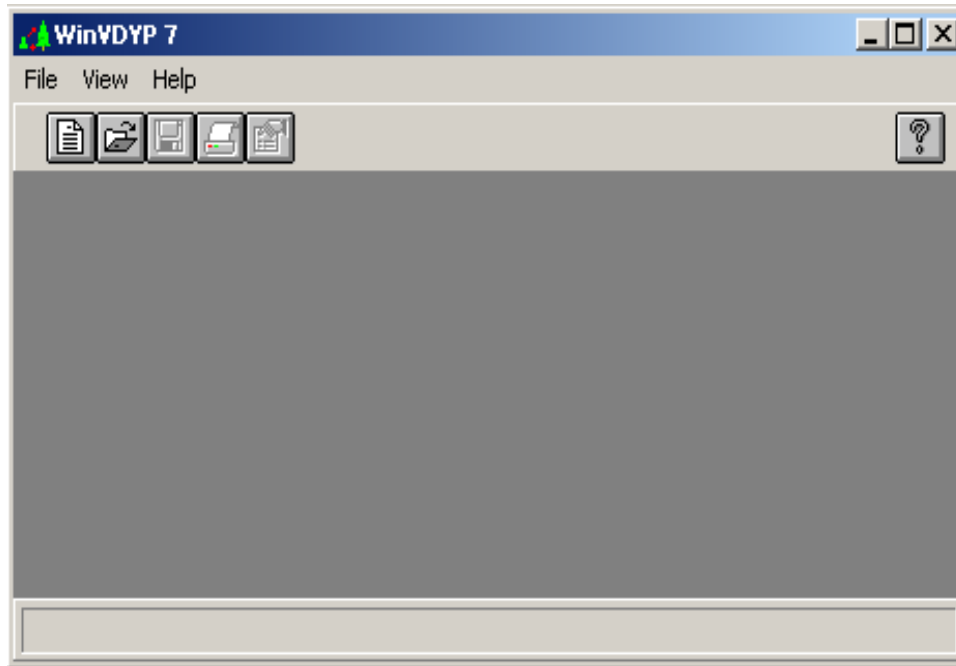

Figure 2-11: The Main Window
- Click on the system button (Figure 2-11) of the WinVDYP7 main window then select the **Close** item.